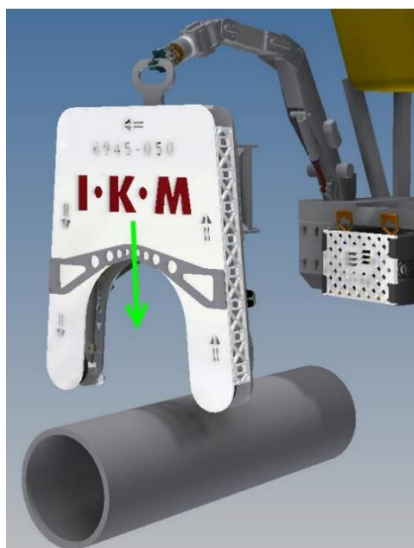

Figure 4.2: Cut on horizontally oriented cutting object
3. Place the tool on top of the cutting object as shown in Figure 4.2.